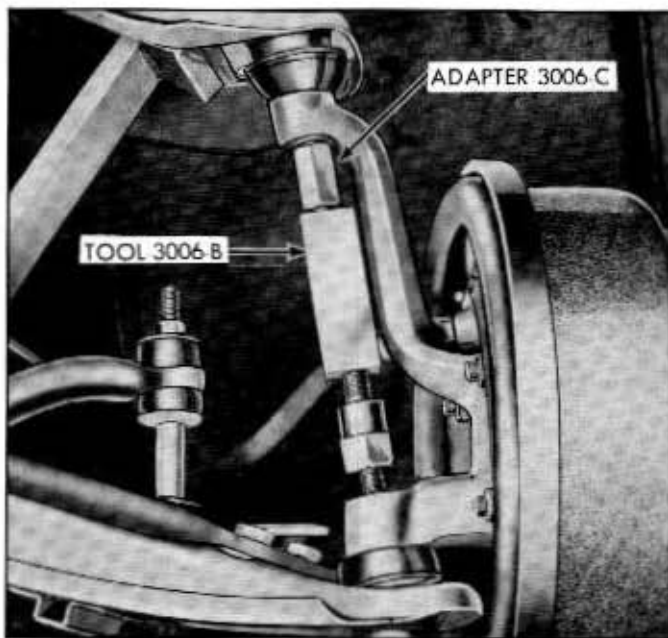

Fig. 3-13—Ball Joint Expanding Tool—Installed—(60C-413)
5. Place a wrench over the lower end of the Ball Joint Remover, Tool 3006-B with Adapter 3006-C, and position the tools. See figure 3-13. The tools should seat firmly against the ends of both studs.
6. Place a wrench over the lower end of the Ball Joint Remover, Tool 3006-B with Adapter 3006-C, and install the tool between the upper and lower ball joint studs. The tool should seat firmly against the ends of both studs. See figure 3-13.
Joint Remover, Tool 3006-B with Adapter 3006-C, and install the tool between the upper and lower ball joint studs. The tool should seat firmly against the ends of both studs. See figure 3-13.
4. Refer to figure 3-13. Straighten the cotter pin on the upper ball joint stud nut, place a wrench over the lower end of the Ball Joint Remover, Tool 3006-B with Adapter 3006-C, and install the tool between the upper and lower ball joint studs. **The tool should seat firmly against the ends of both studs and not against the stud nuts.**